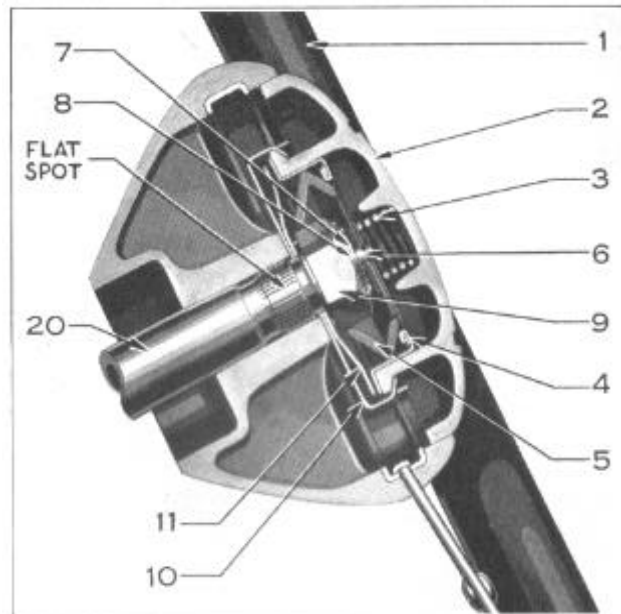

Figure 11
54. Depress horn button (2) and turn to release. (See Figure 11.)
55. Remove horn button and tension spring (3).
56. Remove cup and tension spring assembly (4).
57. Remove rubber silencer (5).
58. Withdraw horn wire (6) from steering column together with fiber washer and steel washer on wire.
59. Remove steering column nut (9).
60. Remove contact spring (11).
61. Remove horn button retainer (10).
92. Turn steering gear until flat spot (See Figure 11) on column tube is straight down.